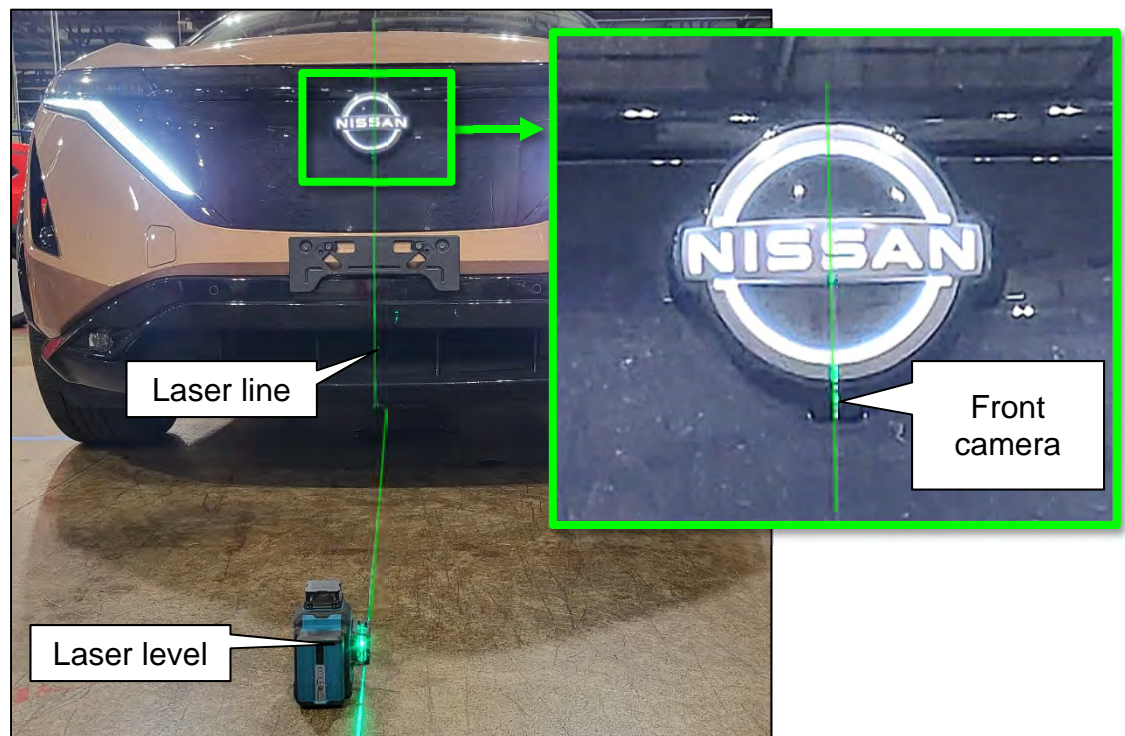

Figure 56
40. Place the laser level approximately 800 mm (31.5 in.) from the front of the vehicle and align the laser with the front camera, as shown in Figure 56.